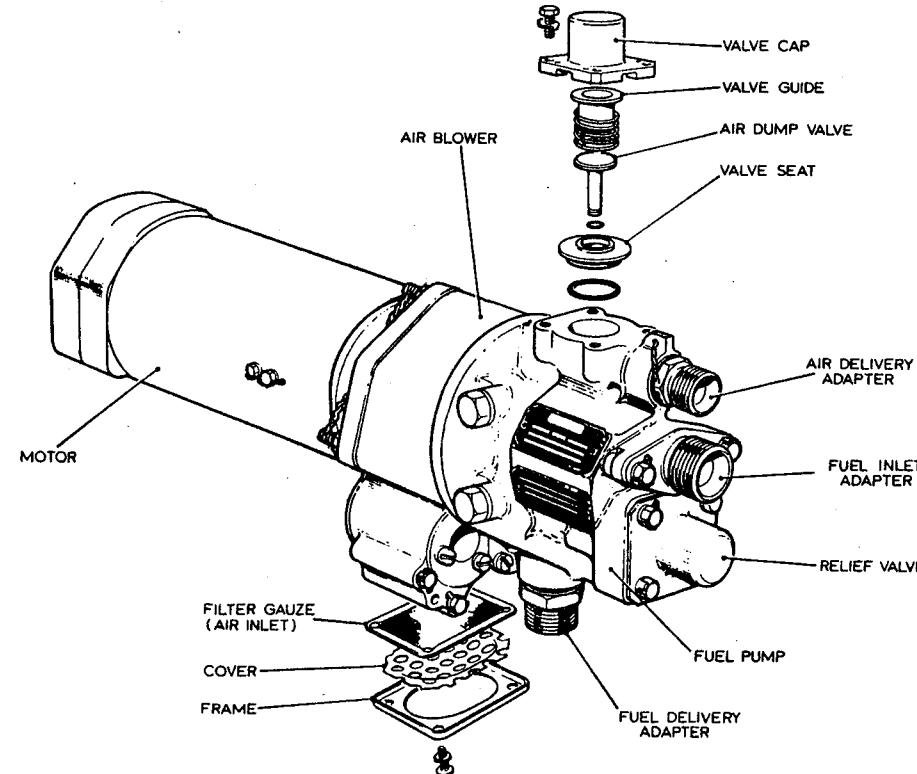

Fig.3 Motor, air blower and fuel pump
(9) Examine the spring. Damage or distortion will entail rejection.
(10) Position the air valve in the guide, then locate the spring, over the stem, in the guide.
(11) Position the retaining plate, flange first, on the spring, then depress the plate and fit the retaining washer to the groove in the valve stem.
(12) Release the retaining plate ensuring that the washer locates in the bore of the plate.
(13) Position the air valve assembly, seat first in the atomizer air inlet port, then locate the 'O' ring seal in the recess formed round the valve guide.
(14) Position the backing washer on the seal and secure with the valve sleeve.
(15) Using special spanner, Table 1 item 2, fully tighten the sleeve, then locate the lock plate, spigot first and bolt holes aligned, on the valve sleeve splines.
(16) Fit the two 'O' ring seals to the air valve sleeve, then assemble the air hose to the sleeve and fit the bolts and new tabwashers.
(17) Torque tighten the bolts to the specified figure (Table 2) then lock by bending up the tabwashers.
(18) Install the engine as described in Sect.4, Chap.1.
**Clean and examine the air blower filter (fig.3)**
16. (1) Remove the fuel pump air blower motor unit as detailed in para.19.
(3) Clean the filter gauze in cleaning fluid, Table 1 item 11, then dry with clean dry compressed air.
(4) Examine the filter gauze; damage and/or corrosion will entail rejection.
(5) Position the cover and the filter gauze in the frame, then locate the frame on the air blower inlet port.
(6) Secure the frame with the screws and spring washers; fully tighten the screws.
(7) Install the fuel pump, air blower motor unit as detailed in para.20.
**Renew the air dump valve seals (fig.3)**
17. (1) Remove fuel pump air blower motor unit as detailed in para.19.